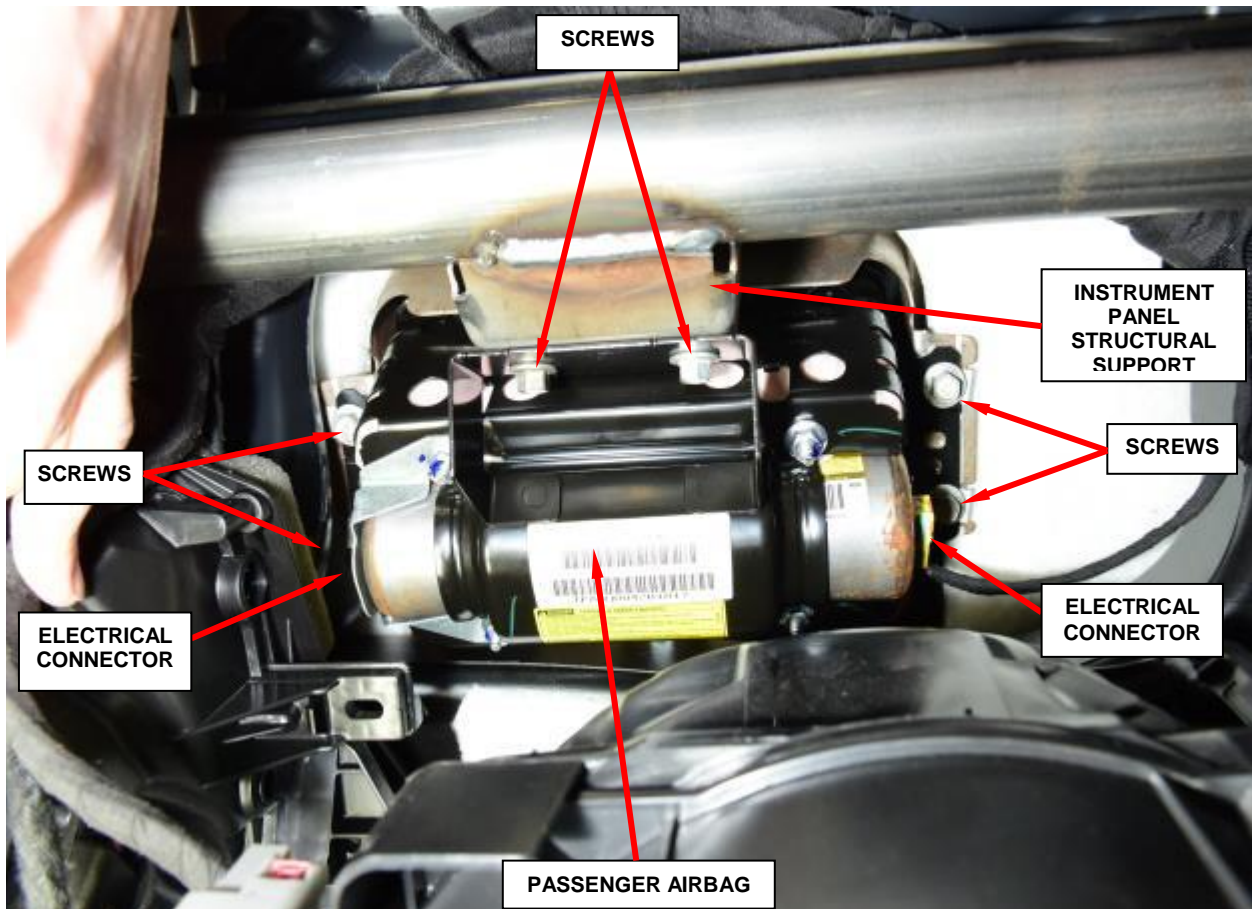

Figure 39 – Passenger Airbag
12. Reach through the instrument panel glove box opening to access and disconnect the two instrument panel electrical connectors from the two Passenger Airbag (PAB) initiators, one at each side of the PAB inflator canister (Figure 39).
13. Reach through the instrument panel glove box opening to access and remove and save the two screws that secure the PAB lower bracket to the instrument panel structural support (Figure 39).
14. Remove and save the four screws that secure the two upper PAB mounting brackets to the U-nuts on each side of the PAB retainer or chute on the underside of the instrument panel cover (Figure 39).